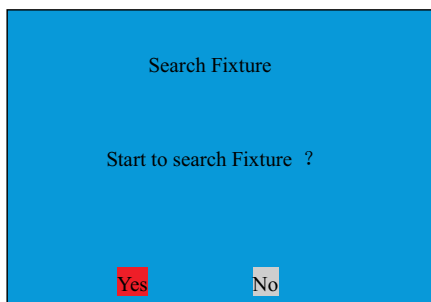

Figure C. 2
1. Search online fixtures, controller will enter into interface of DMX address settings(Figure C.2). You will have to research the fixtures if it is the first time you set the address or you added new fixtures. Controller will save the info of fixtures automatically after searching.